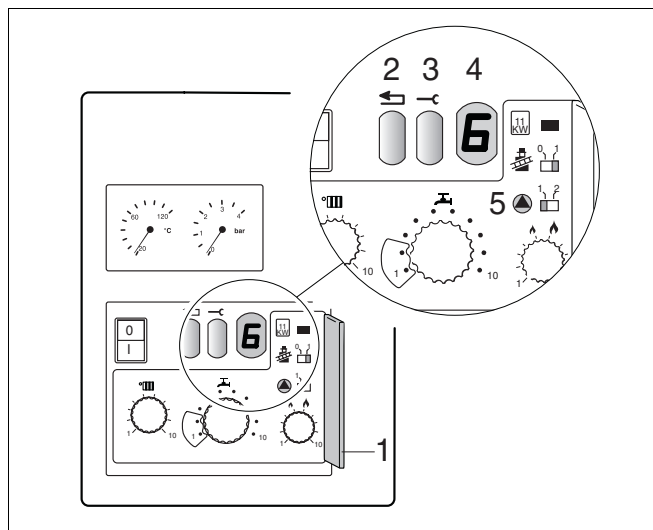

Fig. 10 Operational and fault codes
Operating conditions and possible faults are shown on the display (fig. 10, item 4). The codes consists of two characters. Press the Service button (fig. 10, item 3) to display the second character.